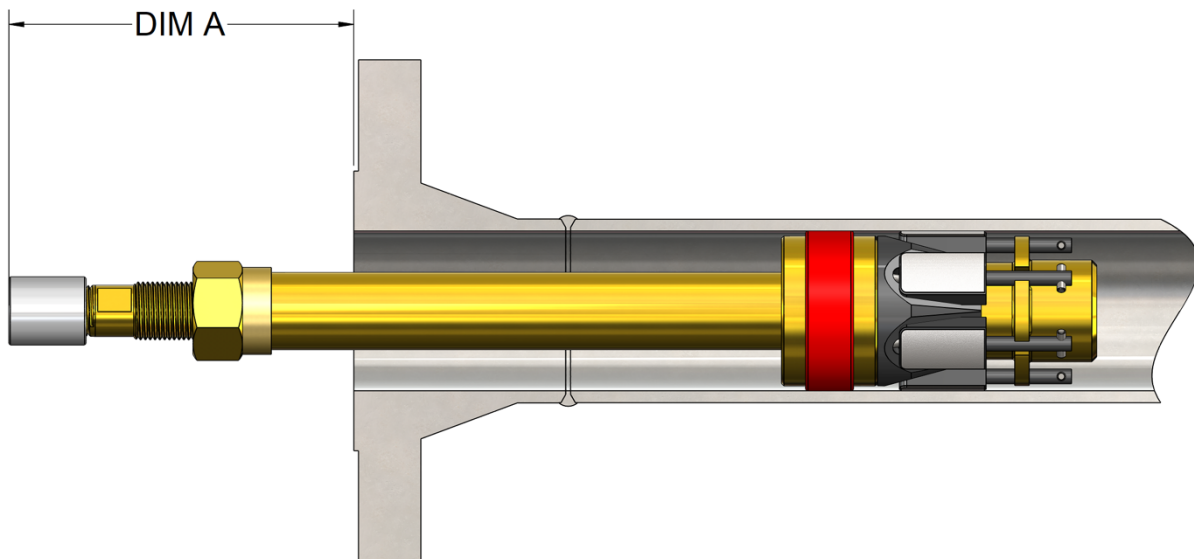

Figure 6: GripSafe ST IIB Depth Insertion
- Insert the GripSafe ST IIB plug into the pipe, **Wedge Gripper(15)** side first, see Figure 6.
- When testing a weld neck flange weld, the **IIB Bottom Compression Plate(12)** for sizes $\frac{3}{4}$ " – 2" or the **Sealing Compression Ring(18)** for sizes 2.5" – 4.00" must be inserted past the weld droop and "DIM A", shown in Figure 6, cannot be longer than the "Bore Depth Per Flange Class" listed on Table 3. Measurements larger than specified values from "DIM A" will interfere with the installation of the test flange.